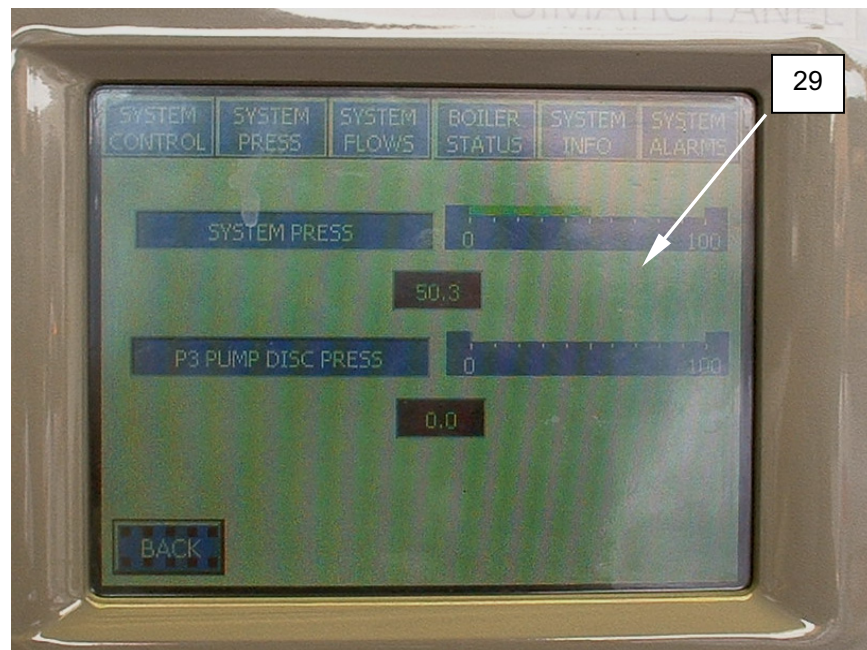

Figure 12. Purge Automatic Soap Dispenser.
16. Open the water spigot (**Figure 12, Item 23**) and allow all water and pressurized air to be expelled. If water is still observed draining, close spigot and allow system pressure to again build to 50 psig on the PLC (**Figure 12, Item 29**).
18. Close spigot (**Figure 12, Item 11**) and allow system pressure to once again build to 50 psig.